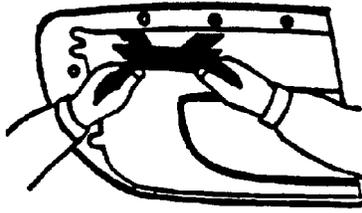

FIGURE A3—APPLICATION OF FIBERGLASS CLOTH TO BACKSIDE OF COVER
A.2.3 Structural Reinforcement—If structural reinforcement is required, the use of fiberglass cloth reinforcing tape or cloth saturated with two-part (2K) repair adhesive applied to the back of the repair is recommended. Clean the backside of the plastic component using soap and water and a plastic cleaner. Next grind 51 mm (2 in) beyond the back edge of the damaged area with a grade 36 or 80 disc. Apply two-part (2K) adhesive to a piece of fiberglass cloth and apply it to the backside of the repair. Apply additional coats of the two-part (2K) repair adhesive to the glass cloth and surrounding surface and allow to cure (Figure A3).